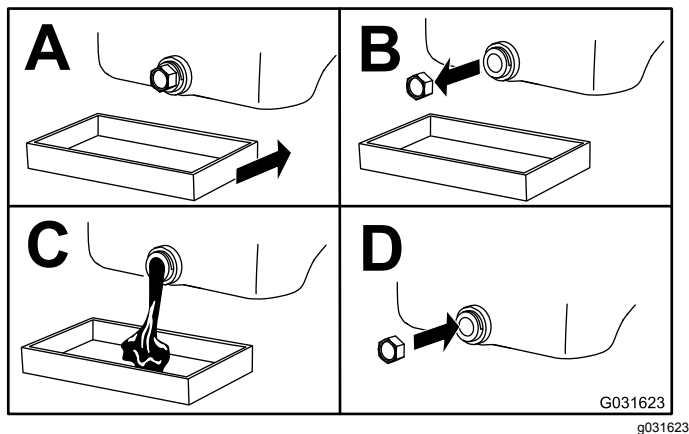

Figure 34
3. Change the oil (Figure 34).